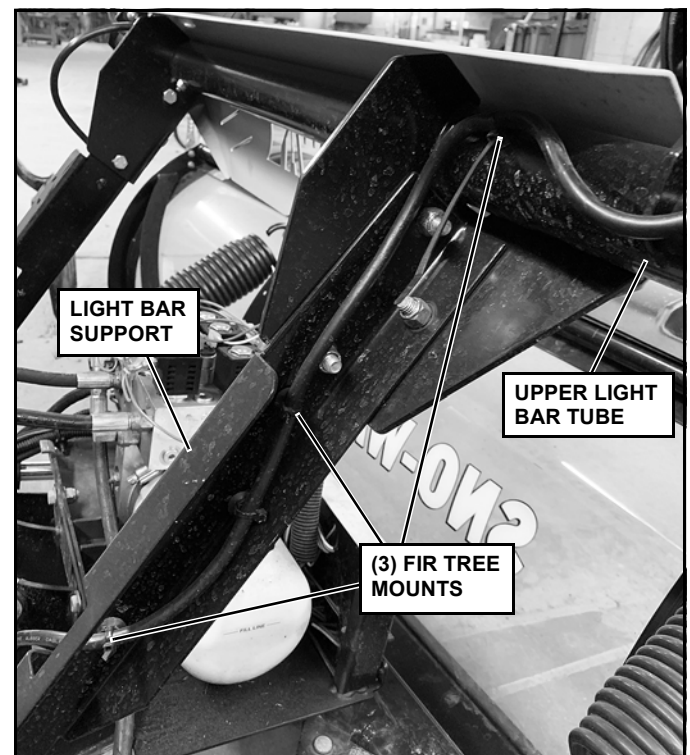
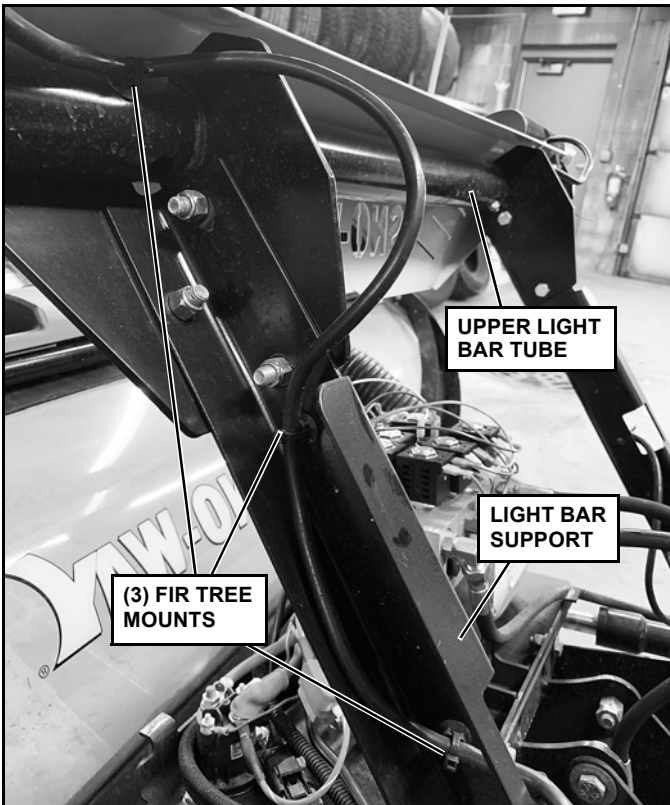

Figure 1-11
Figure 1-12
13. Run passenger and drivers' side light harnesses across Upper Light Bar tube, down the Light Bar Support, and through hole in Light Bar Support. Secure with (3) fir tree mounts inserted into holes in Light Bar Tube and Light Bar Supports. (See Figure 1-11 and Figure 1-12)